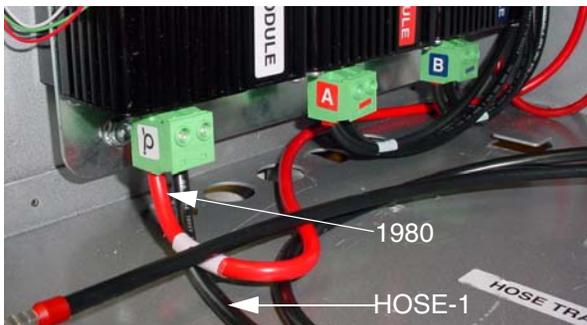

FIG. 21
2. Plug A and B green connectors into bottom of corresponding heater modules on control panel. See FIG. 21.